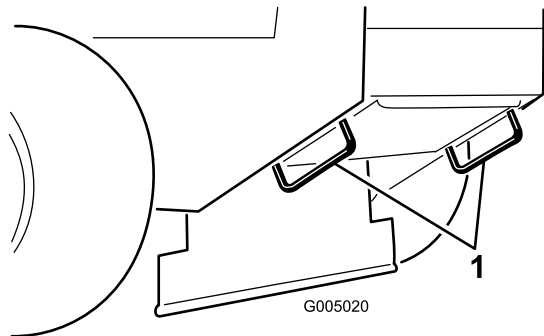

Figure 14
5. Use the metal tie-down loops on the machine to securely fasten the machine to the trailer or truck with straps, chains, cable, or ropes (Figure 14).